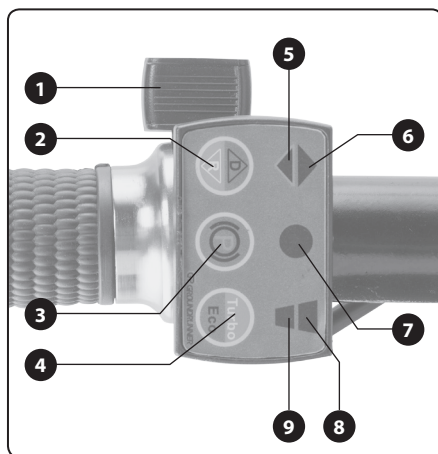

Fig.5, position-description
- In order to enable the setting of the electrical drive using the buttons on the control panel located on the handle, set the power switch (fig. 5, position 7) to position „I“, which when switched to On will be lit. To turn off the functions, set the power switch to position „0“, which when switched to Off will turn off the light.
- The electric drive is turned on using button (fig. 5, position 1), where the degree to which it is pressed
regulates the speed. The rotation (travel) direction is set using button (fig. 5, position 2) and drive power (engine power) is set using button (fig. 5, position 4). Pressing button (fig. 5, position 3) will engage the brake and stop the motion of the wheelbarrow (block the rotation of the wheel). Further information about the el. drive settings are provided in the description of the control panel (fig. 5).